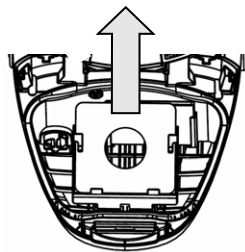

Fig 11
3. Take out the bag then remove the full dust bag. (Fig 11)